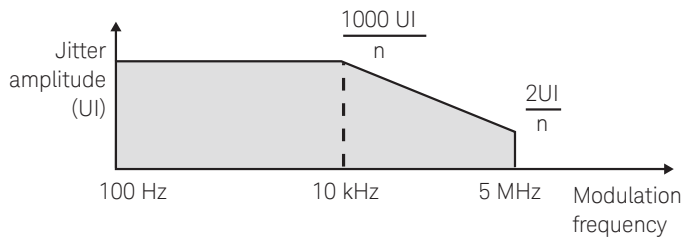

Figure 20. Sinusoidal jitter maximum UI
1. Available range depends on modulation frequency and data rate (see Figure 20).